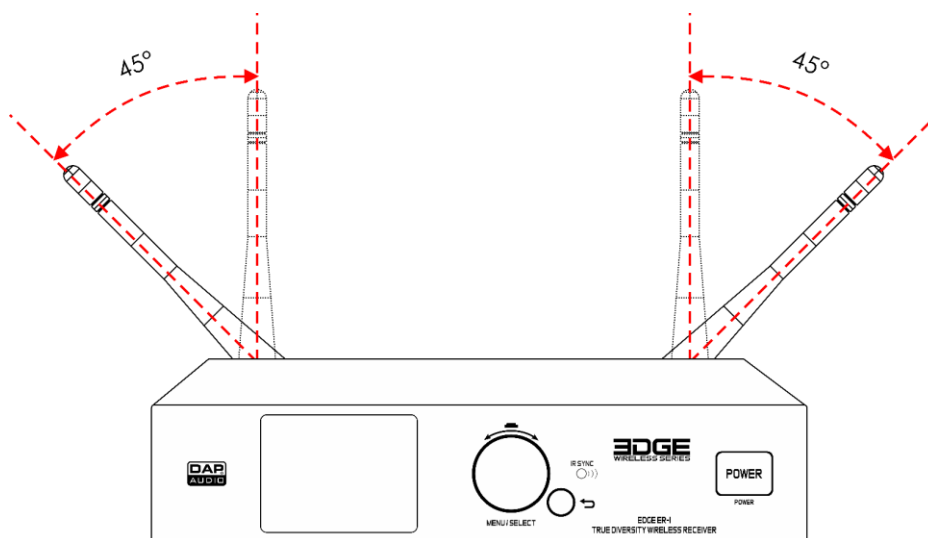

Fig. 11
- 01) Connect the supplied power adapter to the **DC power connector (24)** on the rear of the receiver.
- 03) Press and hold down the **power button (16)** for 2 seconds to turn the device on.
- 04) Point the **antennas (20/25)** away from each other in a 45° position as shown in Fig. 11. Avoid placing the receiver antennas near metal surfaces or other obstructions. Make sure the antennas do not cross if stacking or rack-mounting receivers in a multiple-system setup.